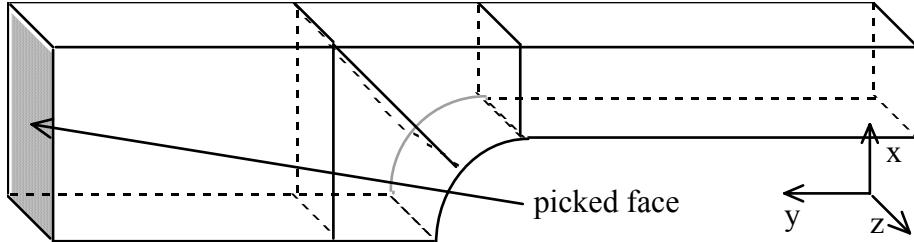

Figure 3.3. Picked face for applying traction boundary conditions.
Step 5: Select **Attach Boundary Condition** from the **BOUNDARY CONDITIONS** menu and then select **Face BCs** from the sub-menu. Select the *traction* boundary condition from the list. Pick the face shown in Figure 3.3 by picking a point anywhere on the face.